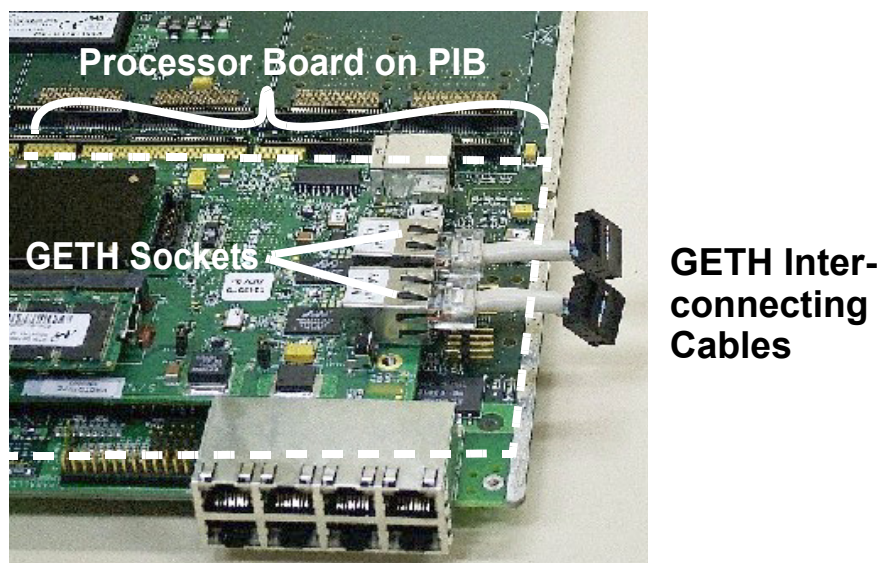
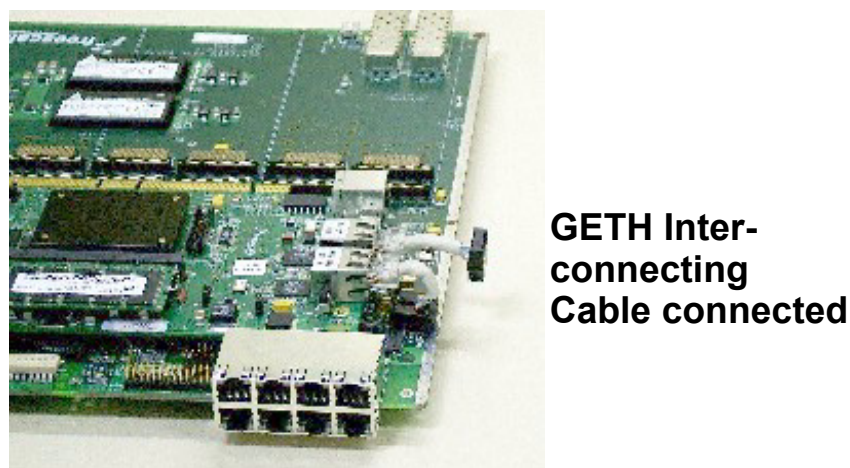

Figure 2-7. Insert GETH interconnecting cables to GETH sockets on Processor board
Figure 2-8. Connect GETH interconnecting cables to sockets on PIB
6. If you will be working with a back plane, and wish GETH signals to traverse either the back plane connection, or the front plane optical connection, connect the two GETH sockets on the MPC8360EA MDS Processor Board with sockets on the PIB board as shown in Figure 2-7 and Figure 2-8.